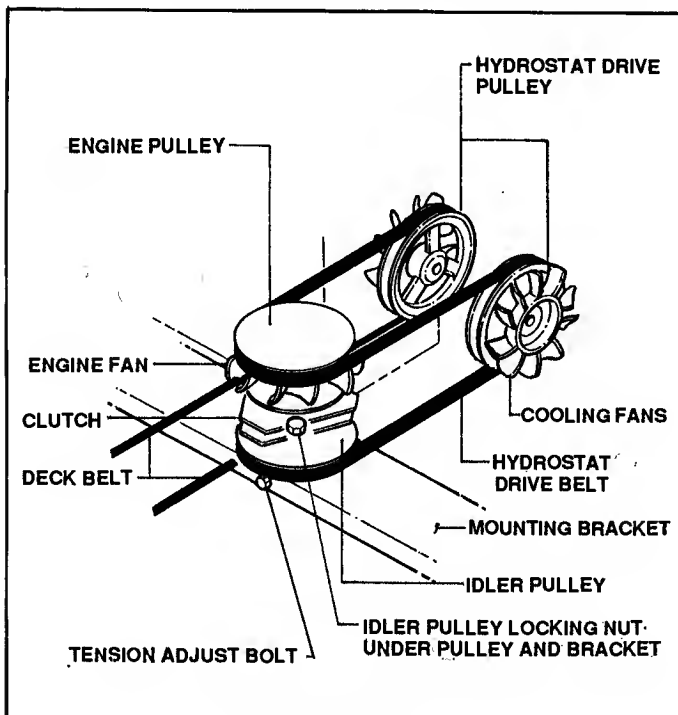

FIGURE 8.6
1. Loosen the idler pulley locking nut until the idler pulley can be just moved relative to the mounting bracket. See Figure 8.6.